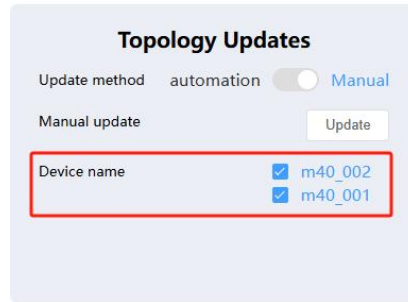

Figure 6.7.4 Puff diagram device name
**Device Name:** As Figure 6.7.4 shows all the node names of the network, if you only want to view a device or part of the device information, you can put the corresponding device '√' selected or cancelled, '√' selected state of the device can be viewed in real time device status information.